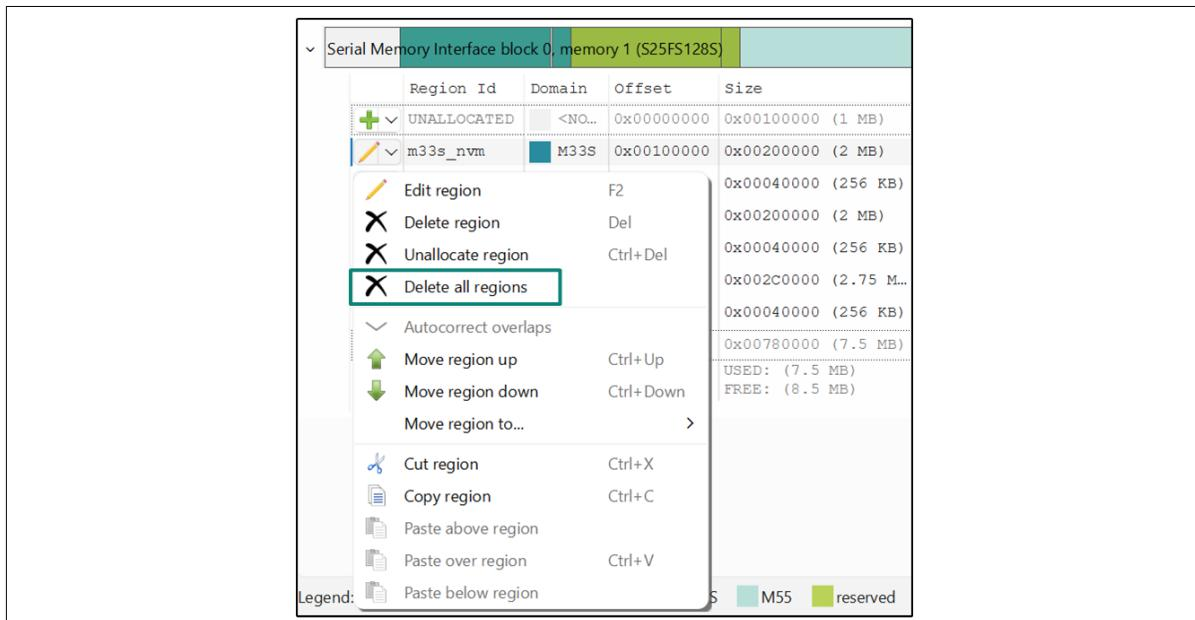

Figure 15 Delete all memory regions in external flash
3. Click on the 'Pencil' icon located next to the `m33s_nvm` memory region and select 'Delete all regions' from the drop down menu as shown in Figure 15. Alternatively, you may right-click on any memory region under SMIF0 and select 'Delete all regions' from the drop-down menu